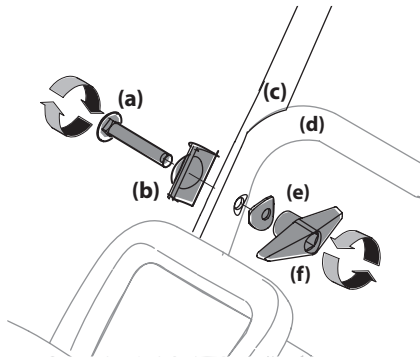

Figure 2-8
5. Insert a carriage screw (a) from the outside through a handle tab (b), the upper (c) and lower handles (d), a saddle washer (e) and into the wing knob (f). Repeat on the other side. Tighten the wing knobs (f) on each side of the handle. Refer to Figure 2-8.